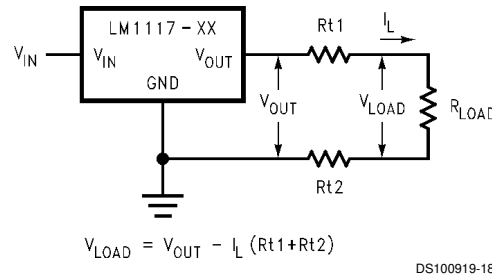

FIGURE 2. Typical Application using Fixed Output Regulator
*Figure 2*, shows a typical application using a fixed output regulator. The  $Rt1$  and  $Rt2$  are the line resistances. It is obvious that the  $V_{LOAD}$  is less than the  $V_{OUT}$  by the sum of the voltage drops along the line resistances. In this case, the load regulation seen at the  $R_{LOAD}$  would be degraded from the data sheet specification. To improve this, the load should be tied directly to the output terminal on the positive side and directly tied to the ground terminal on the negative side.